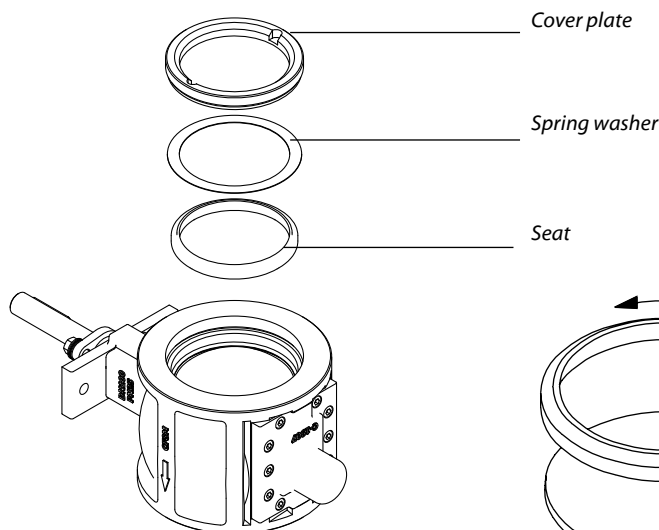

Fig.6-10
2. Mount the new seat and the spring washer (→ Fig.6-10).